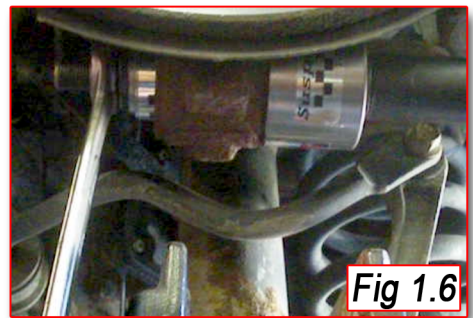

Fig 1.6
6. Press module forward with **SS MOD Tool** (SMX-MDT) using 19mm bolt supplied. (Fig 1.6)